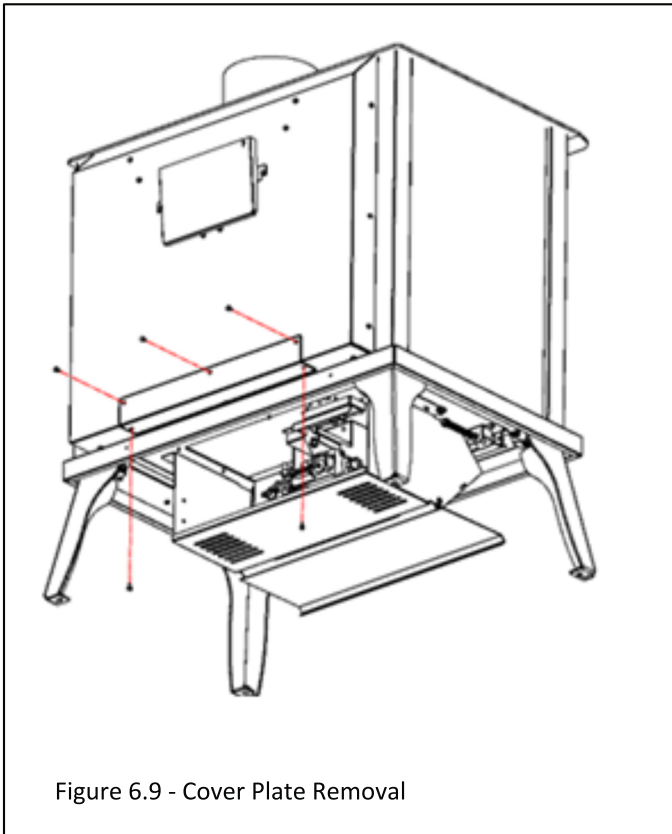

Figure 6.9 - Cover Plate Removal
1. Remove cover plate and retain screws (Figure 6.9).